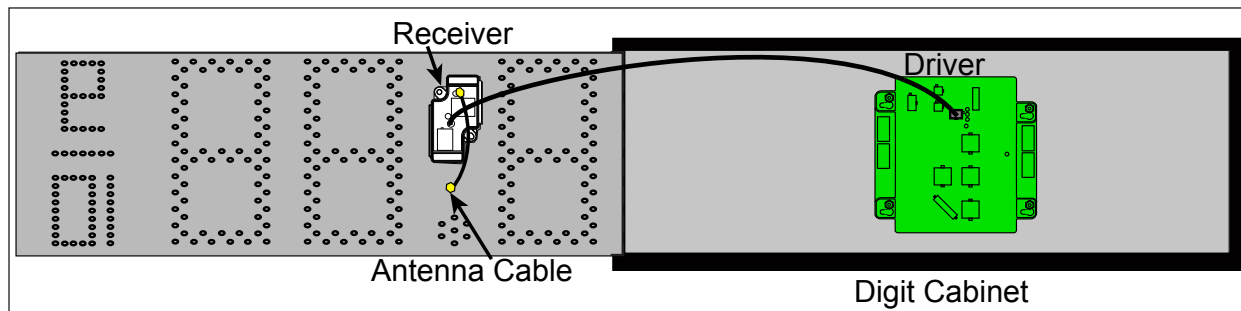

Figure 3: Final Receiver Assembly
9. Connect the receiver cable from receiver to the driver. Refer to **Figure 3**.